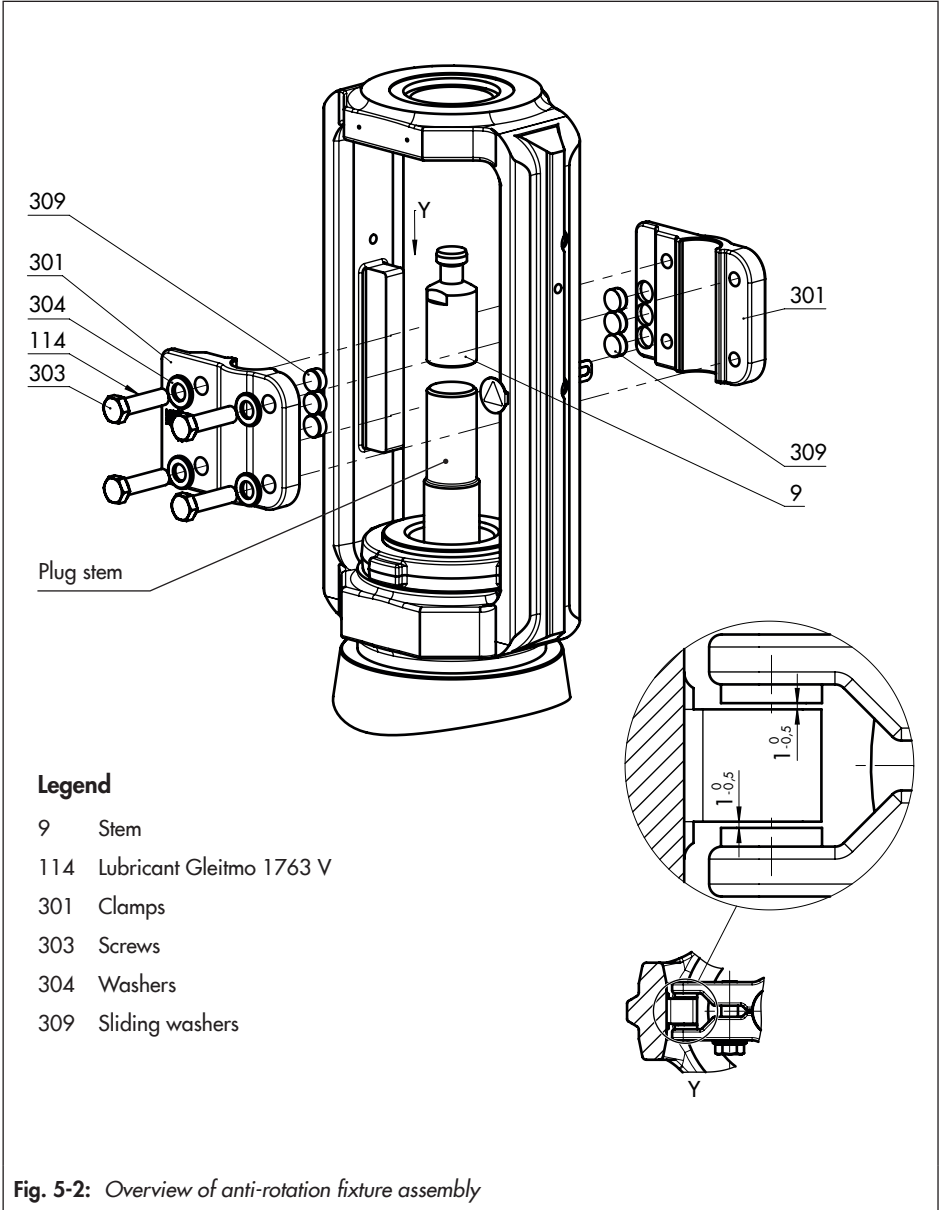

Fig. 5-2: Overview of anti-rotation fixture assembly
See Fig. 5-1 and Fig. 5-2
- There is a nominal clearance of 0.5 to 1 mm between the sliding washers and their contact surface on the yoke on each side (see detailed view Y in Fig. 5-2).